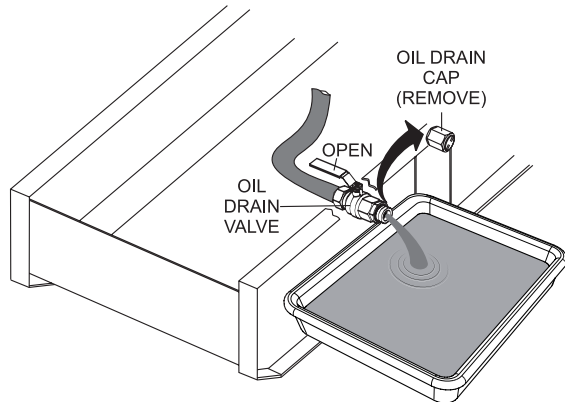

Figure 75. Draining The Engine Oil
4. Remove the **oil drain cap** (Figure 75).
5. Place the **oil drain valve** in the **OPEN** position (Figure 75) and allow the oil to drain into a suitable container.